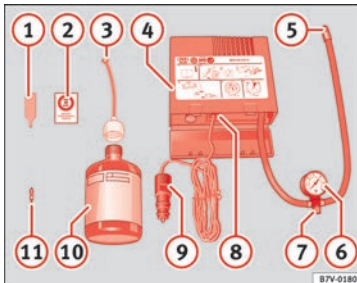

Fig. 57 Standard representation: contents of the anti-puncture kit.
- Unscrew the tyre valve cap and insert. Use the » **Fig. 57 1** tool to remove the insert. Place it on a clean surface.
- Shake the tyre sealant bottle vigorously » **Fig. 57 10**.
- Screw the inflator tube » **Fig. 57 3** into the sealant bottle. The bottle's seal will break automatically.
- Remove the lid from the filling tube » **Fig. 57 3** and screw the open end of the tube into the tyre valve.
- Place the insert back into the tyre valve using the tool » **Fig. 57 1**.
- Screw the compressor tyre inflator tube » **Fig. 57 5** into the tyre valve.
- Check that the air bleed screw is closed » **Fig. 57 7**.
- Insert the connector » **Fig. 57 9** into the vehicle's 12-volt socket » **page 134**.
- Turn the air compressor on with the ON/OFF switch » **Fig. 57 8**.